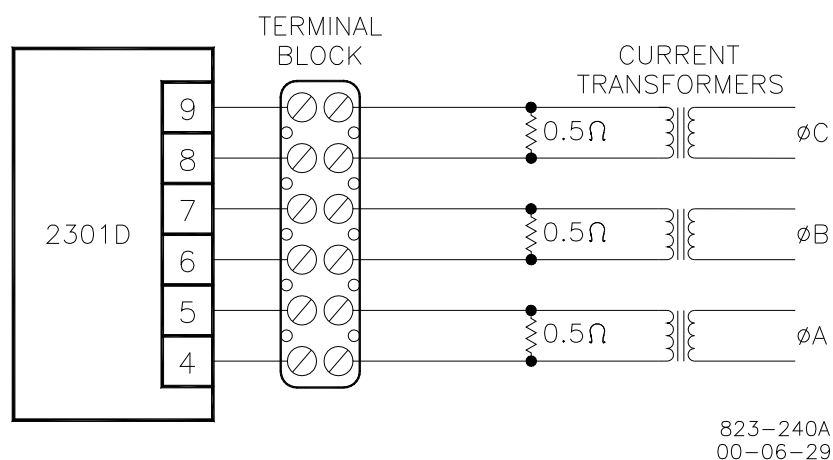

Figure 5-1. Temporary Wiring for Transformer Phase Correction
**HIGH VOLTAGE**—Never disconnect any wire attached to load sensor terminals 4 through 9 when the prime mover is running unless temporary 0.5 Ω, 20 W resistors are installed as shown in Figure 5-1 and all load is removed. The current transformers can develop dangerously high voltages when open circuited while the prime mover is running.
1. Go to the B\*\* DISPLAY LOAD INFO \*\* service menu and observe 02 LD SENSOR INPUT (KW) and 05 LOAD SIGNAL OUT (VDC) to measure the load sensor output. The displayed values are not yet calibrated to read Kilowatts but are used here for indication.
The Phase Correction Procedure requires that the prime mover be shut down many times to disconnect the current transformers. For convenience, a temporary method of connecting the current transformers shown in Figure 5-1 is recommended. Connecting a 0.5  $\Omega$ , 20 W burden resistor across each current transformer allows the current transformers to be disconnected from the terminal strip with the prime mover running, after removing all load.
**HIGH VOLTAGE—The current transformers can develop dangerously high voltages. Do not disconnect a current transformer while the prime mover is running unless temporary 0.5  $\Omega$ , 20 W resistors are installed as shown in Figure 5-1 and all load is removed.**
**HIGH VOLTAGE**—The current transformers can develop dangerously high voltages. Do not disconnect a current transformer while the prime mover is running unless temporary 0.5  $\Omega$ , 20 W resistors are installed as shown in Figure 5-1 and all load is removed.